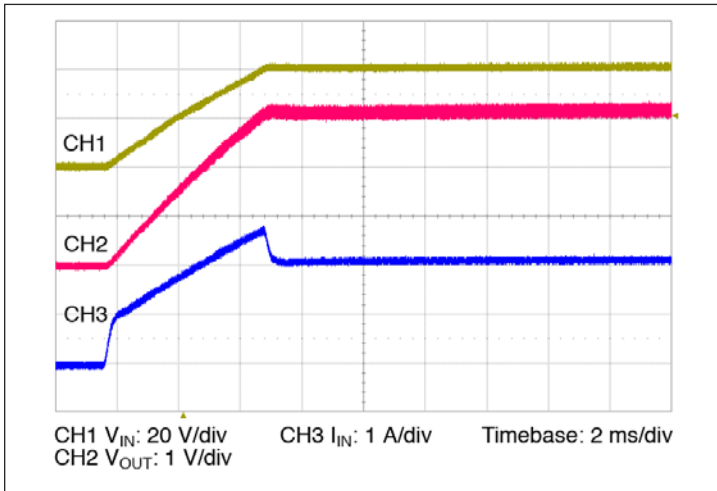

Figure 11 – Start up from application of V_{IN} ; VC pre-applied
- **Normal Operation (VC applied prior to V_{IN}):** In this case the controller is active prior to the input. When the input voltage is applied, the VTM output voltage will track the input allowing for a soft start (See Figure 11). If the VC voltage is removed prior to the input reaching 26 V, the VTM will shut down.